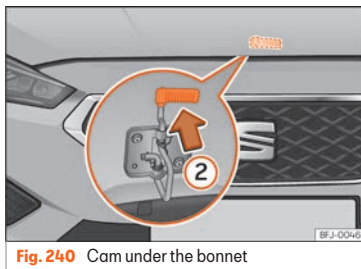

Fig. 240 Cam under the bonnet
- To lift the bonnet, press the release catch under the bonnet upwards »» Fig. 240 ②. The arrester hook under the bonnet is released.